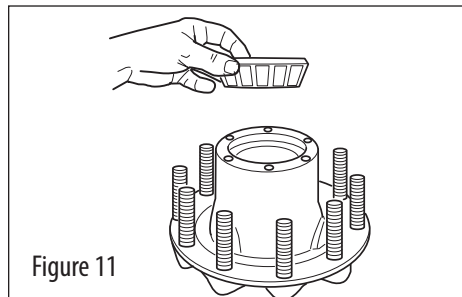

Figure 11
7. Lubricate the outer bearing cone with the same lubricant as will be used in the hub and install it into the hub assembly (see Figure 11).